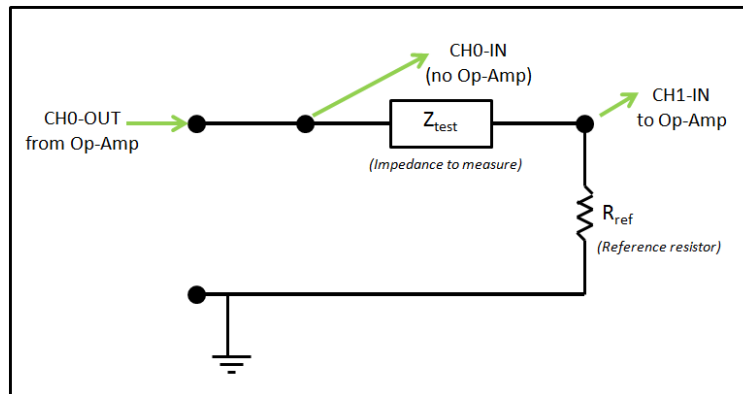
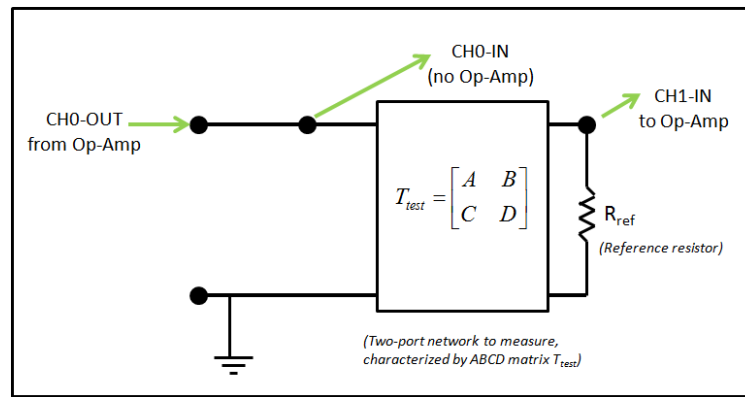

Figure 4: Circuit to measure a test impedance. The reference resistor R_{ref} should have an impedance magnitude similar to the test impedance.
Figure 5: Circuit to measure a 2-port network. The reference resistor R_{ref} should have an impedance magnitude similar to the test impedance.
2. Impedance-measurement circuit: Build the circuit shown in Figure 4, connecting to the op-amps and the MU box as shown in the diagram. Using a voltage divider with a reference resistor R_{ref} , you will be able to measure an unknown impedance Z_{test} .
- (a) Place a “test resistor” (of known impedance) in series with the reference resistor R_{ref} . Your test resistor should occupy the place of Z_{test} in Figure 4.
- (c) Use two inputs (into the MU-box), taken across the ‘test resistor’ terminals. CH0-IN should be connected to the “high” side of the speaker, and CH1-IN connected at the place where the speaker and reference resistor are joined, as described in Fig. 4.
NOTE: Every time you set up your lab circuit for the day, we suggest that you do a quick test with a resistor, as in Lab 1 (Fig. 4) to make sure everything is running properly!!!
You will measure two networks provided to you, a **low-pass filter** and a **twin-T** network. Your test circuit should be a slightly modified version of the circuit from Lab 1 (Fig. 4), as shown in Figure 5. The primary difference is that the unknown two-port network you want to test has a ground terminal. The relationship between the two sides of the unknown two-port is given by the transmission matrix
This is the first lab to work with a real loudspeaker. In this lab you will measure the electrical input impedance Eq. 1, where V is the voltage across the speaker and I is the current through it. The loudspeaker will be in **series** like your resistor from Lab 1, so you should connect the loudspeaker according to Figure 4. The loudspeaker has two terminals; the direction of the terminals should not matter.